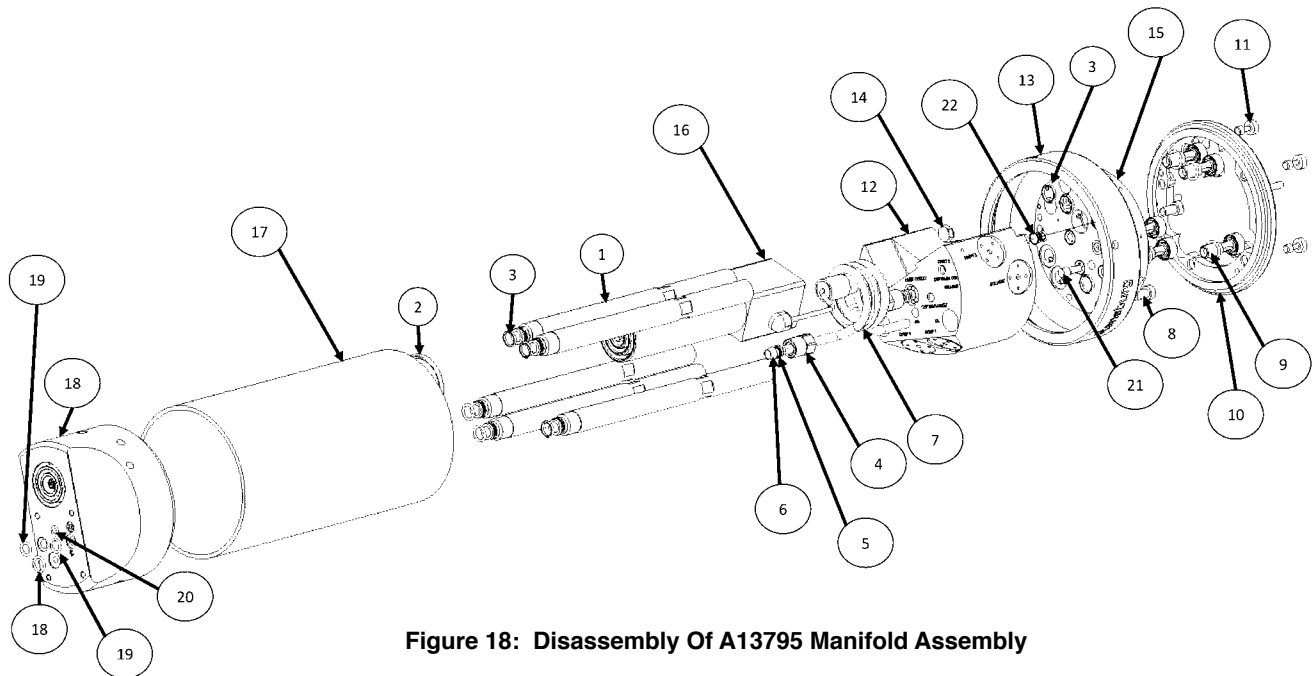
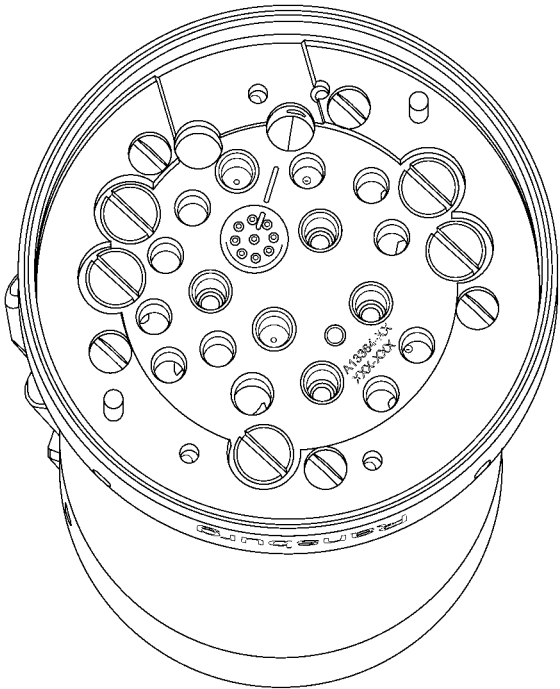

Figure 18: Disassembly Of A13795 Manifold Assembly
Figure 19: Cascade Wire Plug Assembly
7. Remove and inspect the o-rings [2, 19, and 20] on the upper manifold [18]. Replace if necessary (**see Figure 18**).
8. Remove mounting ring [13] by pulling straight up as shown in **Figure 18**.
9. Remove the five (5) screws [11] from the bottom of the mounting plate [12] (**see Figure 18**).
12. Remove the five (5) air bolts [9] from the bottom of the mounting plate [12]. Inspect the five (5) o-rings [3] located within the air bolts [9] and replace if necessary.
14. Remove the cascade plug [16] from the mounting plate [12] by unscrewing the set screw located on the side of the mounting plate [12] in-line with the timer markings. (For set screw location see **Figure 19**).
15. Slide the valve manifold block [15] and mounting plate [12] off of the support rods [1] (**see Figure 18**).
16. Unscrew the five (5) support rods [1] from the upper manifold [18] using an A11284-00 tool.
17. Remove the cascade [16] from the upper manifold [18] by pulling straight down on the cascade [16] (**see Figure 18**).
19. Remove the mounting plate [12] from the valve manifold block [15] by unscrewing the three (3) screws [8] located on the bottom of the mounting plate [12].
20. Reassemble in reverse order making sure to align the cascade wire plug timing mark with the timing mark on the mounting plate [12] as shown in **Figure 19**. Remember to tighten the set screw called out in **Figure 19**.
21. When placing the shroud [17] back onto the assembly, make sure to mate the edge with the lip on the shroud [17] with the upper manifold [18], and fit the lip of the shroud [17] into the groove on the upper manifold [18], as shown in **Figure 18**.
A13795 MANIFOLD ASSEMBLY - PARTS LIST (Figure 18)
Low Voltage Cable Removal (Refer to Figure 18)
2. Loosen retaining ring [13] (see **Figure 18**) and remove applicator from robot wrist.